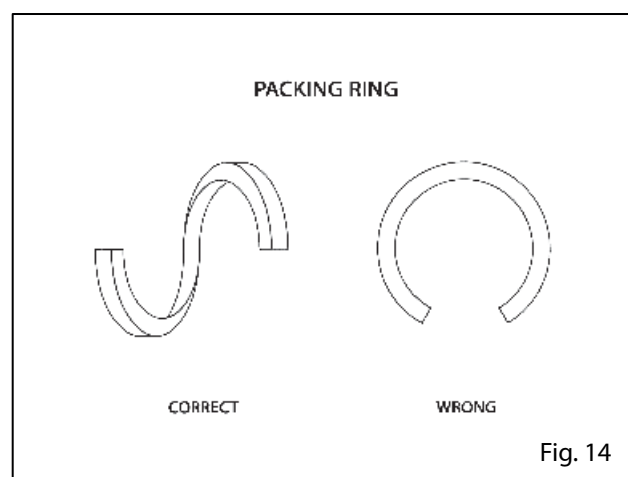

Fig. 14
- 2.- Must twist packing and lantern rings, just to keep in touch with the sleeve, (see in Figures 14 and 15 the correct way to turn these rings is shown).